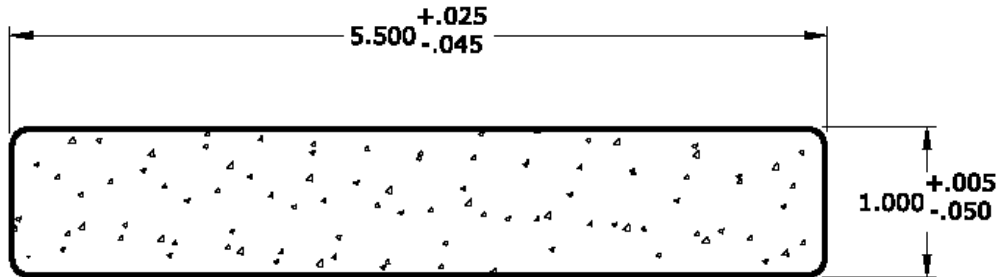

FIGURE 1 – ENDECK® STRAIGHT EDGE DECK BOARD
3.1 *Endeck®* deck boards are a solid rectangular cross-section with nominal dimensions of 1.0 inch thick by 5.5 inches wide and are produced with either a straight edge or grooved edge profile. See Figures 1 and 2.